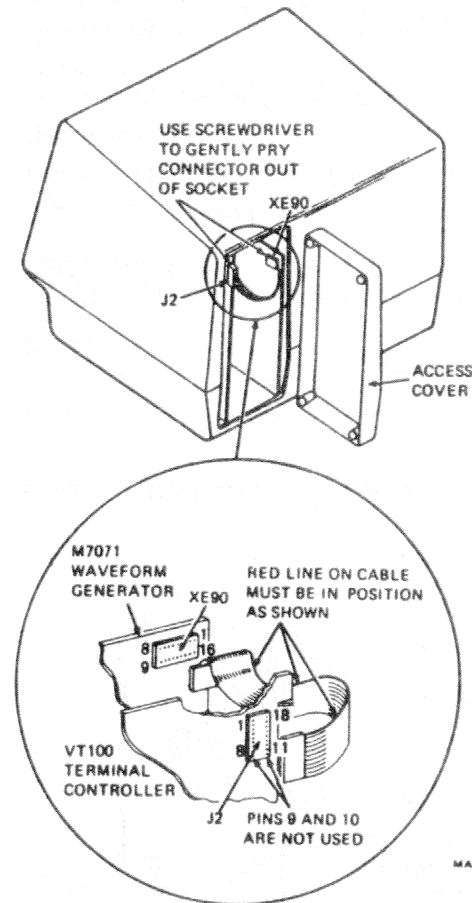

Figure 5-7 VT105 Interconnections
2. Disconnect the graphic interconnecting cable from XE90 on the waveform generator board (Figure 5-7).
Refer to Figure 5-7 for correct orientation when reconnecting this cable.